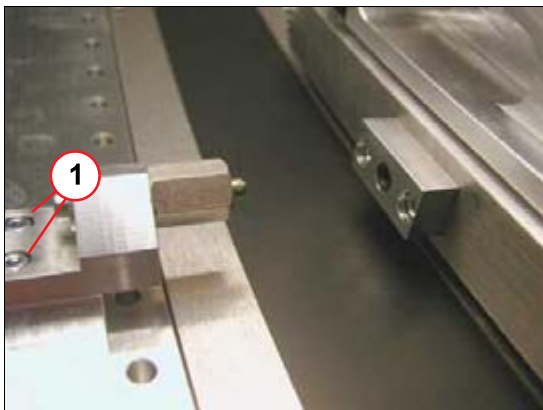

Fig. 19: UHR guide pin
- Remove both guide pinholders (**if available**) (1/Fig. 19 / p. 53) by removing the 2 x 2 screws M4 x 10mm, using a 3mm Allen key
- Adjust the UHR guide pins (**if available**) (Fig. 19 / p. 53) with the following procedure. Use service switch S1 at fiber optic cable D514 to enable the service function. To position the guide pins properly, use S3 (UHR out) and S4 (UHR in) to move the comb several times in and out the guide pins before tightening the screws of both guide pinholders with **3 Nm**